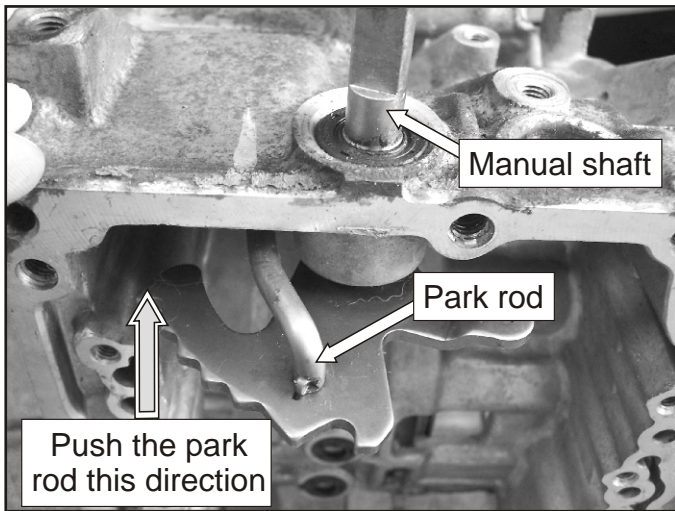

Figure 93
42. Rotate the Manual shaft until the tab on the park rod aligns with the slot in the in the manual shaft. Lift the park rod up and pull it forward to remove it from the case as shown in Figure 93.